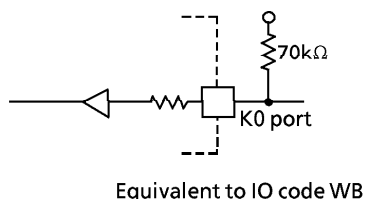

Figure 1-2. I/O code and external circuitry
External resistance, for example, is required when using as evaluator of other I/O codes (WB). (Refer to Figure 1.2)